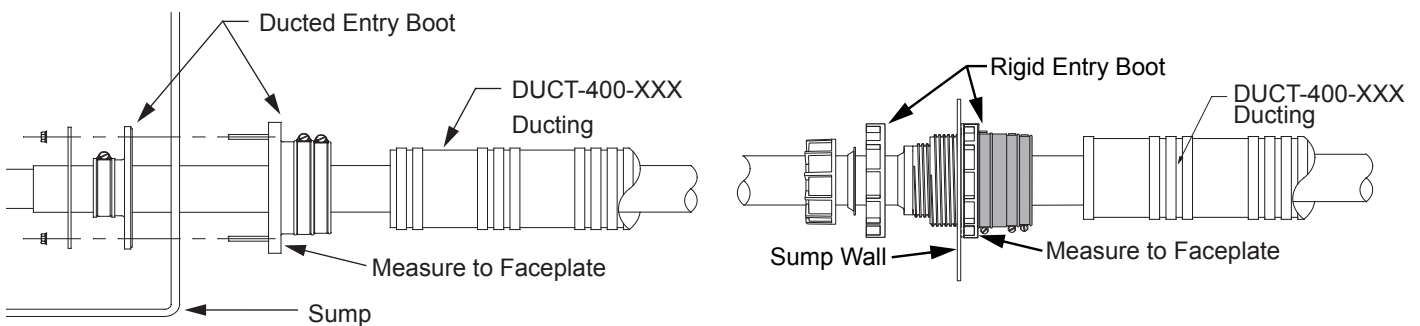

Figure 1: Ducted and Rigid Entry Boot Connection
1. Install the ducted-style pipe entry boots in the sump wall per the entry boot installation instructions (Figure 1). Refer to Table 1 for torque specifications.